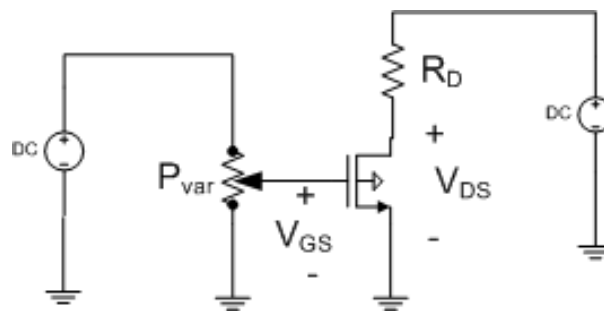

Figure 1: Circuit for biasing the NMOSFET and measuring the current I_D .
2. The schematic for measuring the NMOSFET is given in figure 1. You will have at your disposal:
1. Connect the NMOSFET (BS170) and other components as shown in figure 1.
2. Measure the current in the linear region for a small $V_{DS} = 0.2V$, sweeping V_{GS} (see also Eq. (2) above).
6. Measure the current in the saturation region: $V_{GS} = 1.8V$, sweeping V_{DS} (see also Eq. (3) above). Second, measure I_D while keeping V_{DS} constant (3V) and sweeping V_{GS} .